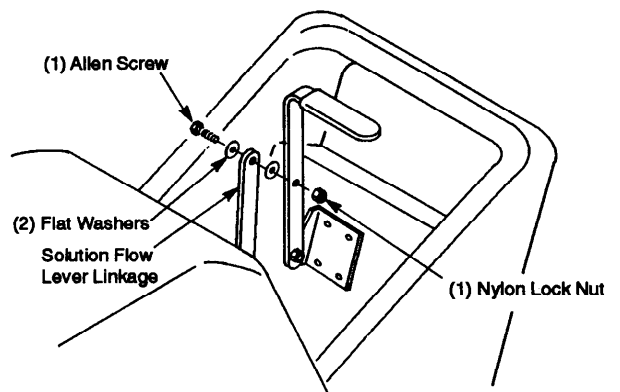

FIG. 2.
2. Align solution lever to linkage arm and connect with allen screw, (2) small flat washer and nylon lock nut. Use a 5/32" allen wrench and 7/16" wrench. (Figure 2)